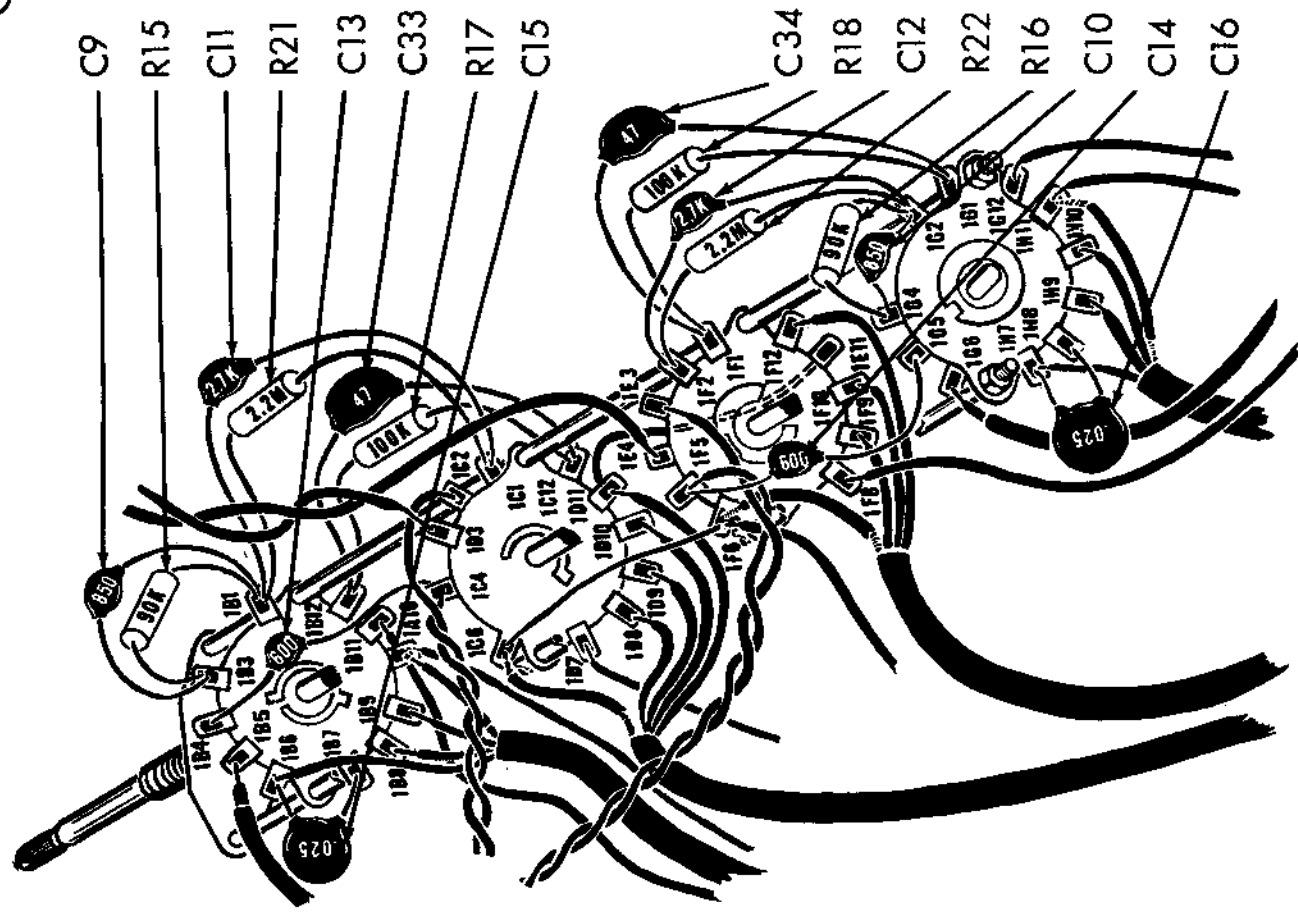

Fig. 1
1. () Fig. 1. Cut all leads on two .025 mfd (25K or 25,000 mmf) disc capacitors, C15 and C16, to 3/4". Cover each lead with a 1/2" piece of spaghetti. Connect C15 from S1B-6 (C) to S1B-7 (S1). Connect C16 from S1H-7 (Q) to S1H-8 (S1).
2. () Fig. 1. Cut all leads on two 90KΩ (white, black, orange, gold) 5% resistors, R15 and R16, to 1/2". Connect R15 from S1B-3 (Q) to S1B-1 (Q). Connect R16 from S1G-2 (Q) to S1G-4 (C).
3. () Fig. 1. Cut all leads on two 850 mmf disc capacitors, C9 and C10, to 3/4". Connect C9 from S1B-3 (S2) to S1B-1 (Q). Connect C10 from S1G-2 (Q) to S1G-4 (S2).
4. () Fig. 1. Cut all leads on two 2.2MΩ (red, red, green, silver) 10% resistors, R21 and R22, to 1/2". Connect R21 from S1B-1 (C) to S1C-1 (Q). Connect R22 from S1F-2 (Q) to S1G-2 (Q).
5. () Fig. 1. Cut all leads on two .0027 mfd (2.7K or 2700 mmf) disc capacitors, C11 and C12, to 1/2". Cover each lead with a 1/4" piece of spaghetti. Connect C11 from S1B-1 (S4) to S1C-1 (S2). Connect C12 from S1F-2 (S2) to S1G-2 (S4).
6. () Fig. 1. Cut all leads on two 100KΩ (brown, black, yellow, silver) 10% resistors, R17 and R18, to 1/2". Connect R17 from S1B-12 (Q) to S1C-12 (Q). Connect R18 from S1F-1 (C) to S1G-1 (Q).
7. () Fig. 1. Cut all leads on two 47 mmf disc capacitors, C33 and C34, to 3/4". Connect C33 from S1B-12 (S2) to S1C-12 (S2). Connect C34 from S1F-1 (S2) to S1G-1 (S2).
8. () Fig. 1. Cut all leads on two 600 mmf disc capacitors, C13 and C14, to 3/4". Connect C13 from S1B-4 (S1) to S1C-4 (Q). Connect C14 from
9. () Fig. 1. Strip back the outer insulation 1 1/2" from one end of an 8" piece of 3 conductor shielded cable. Twist the shield strands together and cover with a 1 1/4" piece of thick spaghetti. Cut the brown lead to 1 1/4", the red lead to 3/4" and the orange lead to 1". Strip back the insulation 1/4" from the end of each of these leads. Connect the brown lead to S1B-6 (S2), the red lead to S1B-8 (S1), the orange lead to S1B-9 (S1) and the twisted shield strands to S1A-10 (S). On the other end of the same piece of shielded cable, strip the outer insulation back 3/4". Twist the shield strands together. Strip back the insulation 1/4" from the end of each of the inner conductors. This end of the cable does not get connected until later.
10. () Fig. 1. Connect one end of a 3 1/2" piece of black wire to S1A-10 (S2).
11. () Fig. 1. Strip back the outer insulation 1 3/4" from one end of an 8" piece of the 4 conductor shielded cable. Twist the shield strands together and cover with a 1 1/2" piece of thick spaghetti. Cut the brown, red and orange leads to 3/4", each and the yellow lead to 1 1/4". Strip back the insulation 1/4" from the end of each of these leads. Connect the brown lead to S1D-8 (S), the red lead to S1D-9 (S), the orange lead to S1D-10 (S) and the yellow lead to S1D-11 (S). Connect a 1" piece of bare wire from S1D-11 (S) to S1E-11 (S). Connect the twisted shield strands to S1C-6 (S). On the other end of the same piece of shield cable, strip the outer insulation back 1 1/4". Twist the shield strands, cut to 3/4" and cover with 1/2" piece of spaghetti. Cut the red, brown, orange, and yellow leads to 1". Strip back the insulation 1/4" from the end of each of the inner conductors. This end of the cable does not get connected until later.
12. () Fig. 1. Strip back the insulation 1 3/4" from one end of a 6 1/2" piece of 3 conductor shield cable. Twist the shield strands together and cover with a 1 1/2" piece of thick spaghetti. Cut the brown and red leads to 3/4" and the orange lead to 1". Strip back the insulation 1/4" from the end of each of these leads. Connect the orange lead to S1F-12 (S), the red lead to S1F-10 (S), the brown lead to S1F-9 (S) and the twisted shield strands to S1F-6 (S). On the other end of the same piece of shielded cable, strip the outer insulation back 1 1/4". Twist the shield strands. Cut the shield strands, red lead and orange lead to 3/4" and the brown lead to 1". Cover shield strands with 1/2" piece of spaghetti. Strip back the insulation 1/4" from the end of each of the inner conductors. This end of the cable does not get connected until later.
13. () Fig. 1. Connect one end of a 4 1/2" piece of black wire to S1F-6 (S).
14. () Fig. 1. Connect a 1 1/2" piece of bare wire from S1C-6 (S) to S1F-6 (S).
15. () Fig. 1. Strip back the outer insulation 1 1/4" from one end of a 6 1/2" piece of 3 conductor shield cable. Twist the shield strands together,
16. () Fig. 1. Connect one end of a 4" piece of black wire to S1H-11 (S).
17. () Fig. 1. Connect one end of a 2 1/2" piece of grey wire to S1B-11 (S).
18. () Fig. 1. On one end of a 4" piece of single conductor shielded cable, strip the outer insulating back 1/2". Twist the shield strands together and cut off. Strip back the inner insulation 1/4" and connect to S1B-5 (S). On the other end of the same piece of shielded cable, strip back the outer insulation 3/4". Twist the shield strands together. Strip back the inner insulation 1/4". This end of the cable does not get connected until later.
19. () Fig. 1. Connect one end of a 4" piece of brown wire to S1D-7 (S).
20. () Fig. 1. Connect one end of a 3" piece of brown wire to S1F-8 (S).
21. () Fig. 1. On one of a 3" piece of single conductor shielded cable, strip the outer insulated back 1/2". Twist the shield strands together and cut off. Strip back the inner insulation 1/4" and connect to S1G-6 (S). On the other end of the same piece of cable, strip the outer insulation back 3/4". Twist the shield strands together. Strip back the inner insulation 1/4". This end of the cable does not get connected until later.
22. () Fig. 1. Connect one end of a 3" piece of grey wire to S1G-12 (S).
23. () Fig. 1. Connect one end of a 5" piece of grey wire to S1D-3 (S) and one end of a 5" piece of yellow wire to S1E-4 (S). Twist the two leads together loosely.
24. () Fig. 1. Connect one end of a 4 1/2" piece of green wire to S1C-2 (S) and one end of a 4 1/2" piece of blue wire to S1C-4 (S). Twist the two leads together.
25. () Fig. 1. Connect one end of a 5 1/2" piece of violet wire to S1E-3 (S) and one end of a 5 1/2" piece of white wire to S1F-5 (S). Twist the two leads together.